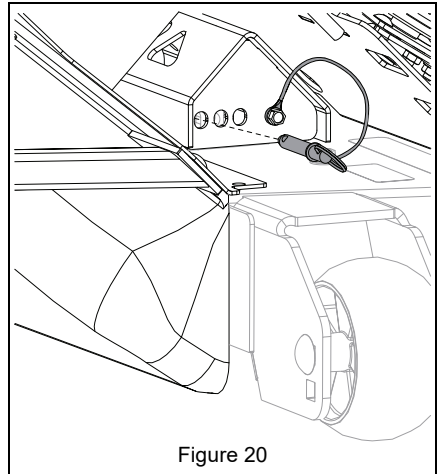

Figure 20
8. Install pin through mower deck bracket. See Figure 20.